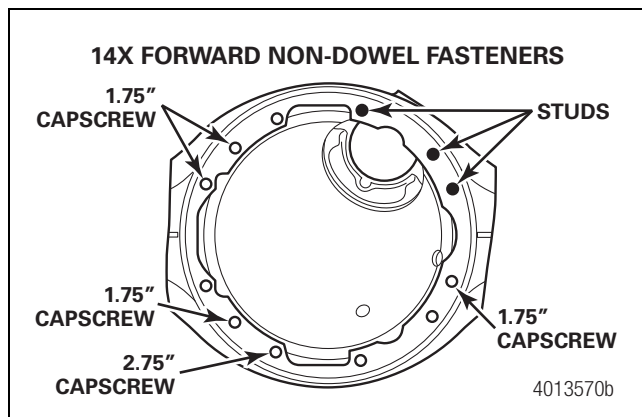
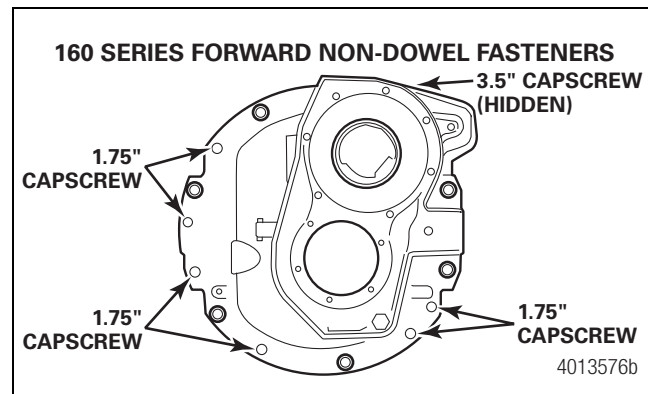
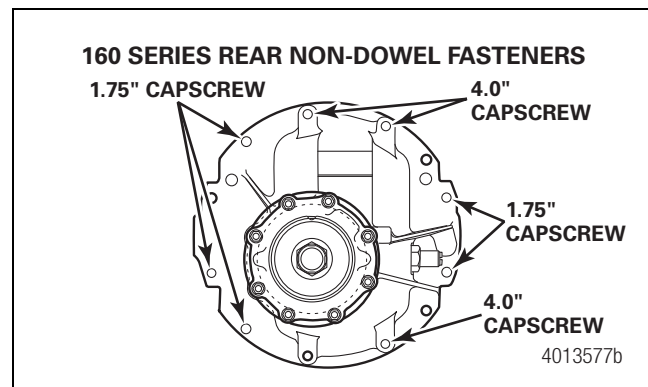
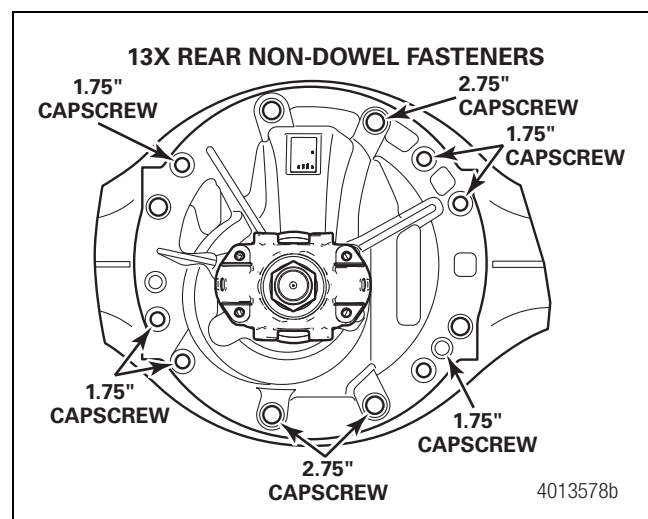

Figure 4.14
Figure 4.15
Figure 4.16
Figure 4.17
- B. Install the remaining washers and capscrews (1.75" length, part number 10X1594, shortest bolts in the kit, unless otherwise noted). Using a crisscross pattern, tighten the 1.75" capscrews to 100 lb-ft. Then, angle tighten the capscrew 40 degrees. Use a torque wrench for this process. Use of an impact gun is not recommended. For the other size capscrews, use a crisscross pattern to tighten the fasteners to a target torque of 225 lb-ft (range 210-240 lb-ft [285-325 N•m]). Figure 4.14, Figure 4.15, Figure 4.16 and Figure 4.17.